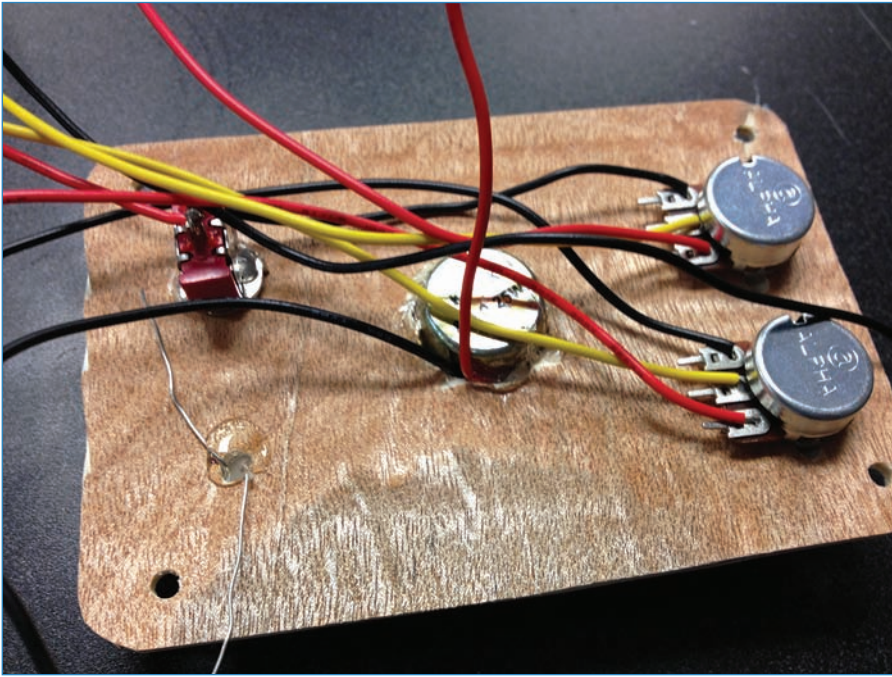

FIGURE 10.16 Hot glue the photo resistor to the top panel.
7. Insert the light sensor from the top and hot glue it in place (see Figure 10.16) from the bottom, making sure you don't goop up the leads!